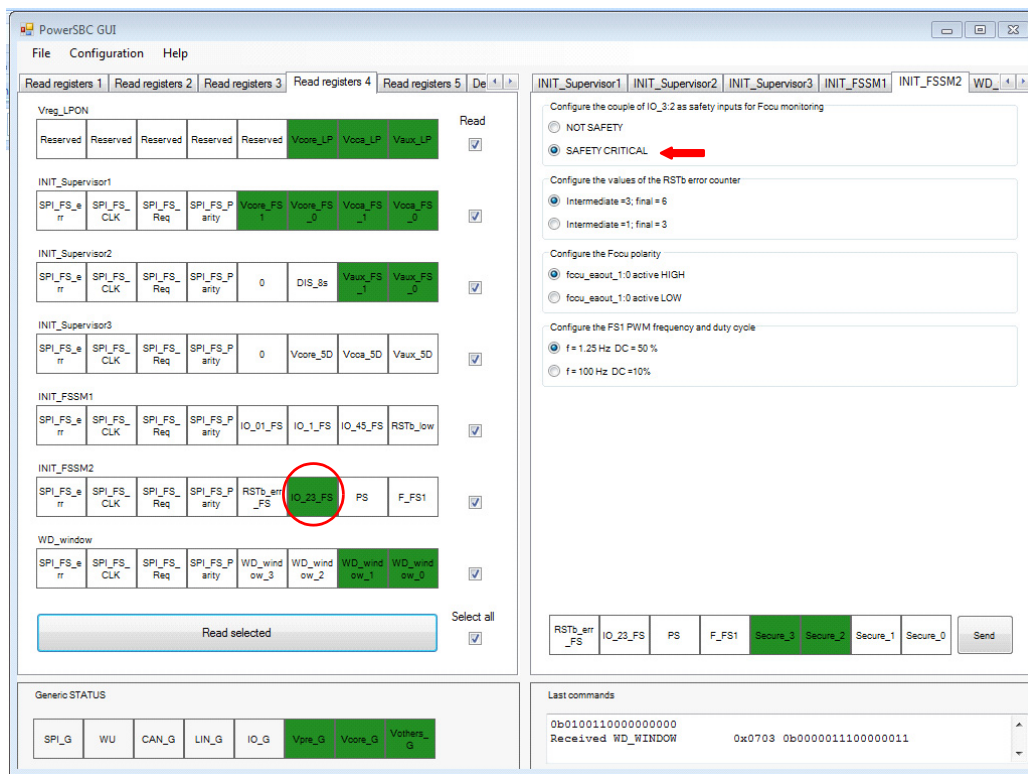

Figure 11. MC33907_8 GUI Main Screen
- 2. **Figure 11** shows the status of several registers at startup. In this example, register INIT_FSSM2 has bit IO_23_FS configured as SAFETY CRITICAL.